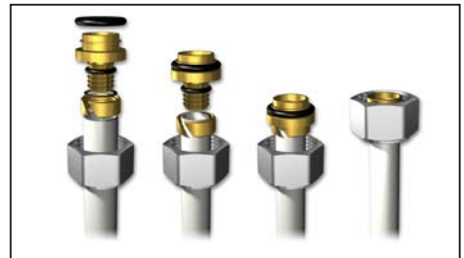

Figure 6. LK Coupling ext. thread installed on LK Under Floor Heating Pipe.
- Install the double nipples on the shunt's floor heating connections (12) and (13).
- Install the remaining parts of the LK Coupling on the floor heating pipe in accordance with "Figure 6". Be careful that the O-ring on the plug-in sleeve is in place after installation
- Then attach the floor heating pipe on the mini shunt's floor heating supply line (12). Tighten securely with a spanner.